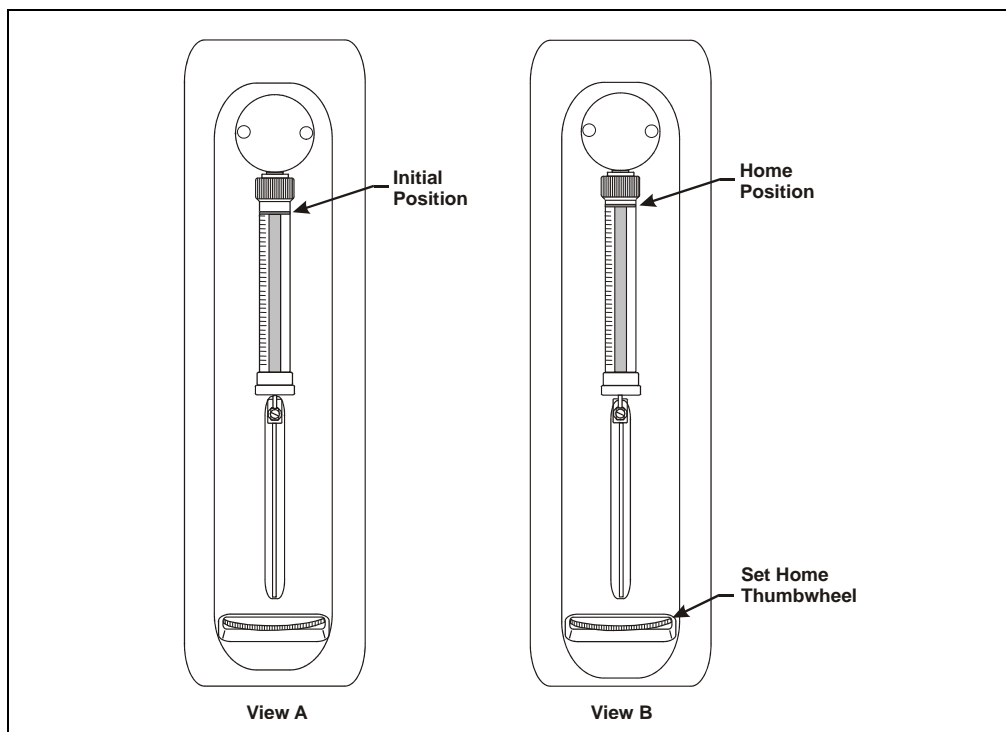

Figure 5-3. Initializing the Syringe and Setting the Home Position
5. The syringe plunger moves down a small amount. This is its initial position (see Figure 5-3, View A).
1. Move the set home thumbwheel to the left to raise the syringe plunger until it is approximately 1 to 2 mm from the top of the syringe (see Figure 5-3, View B).